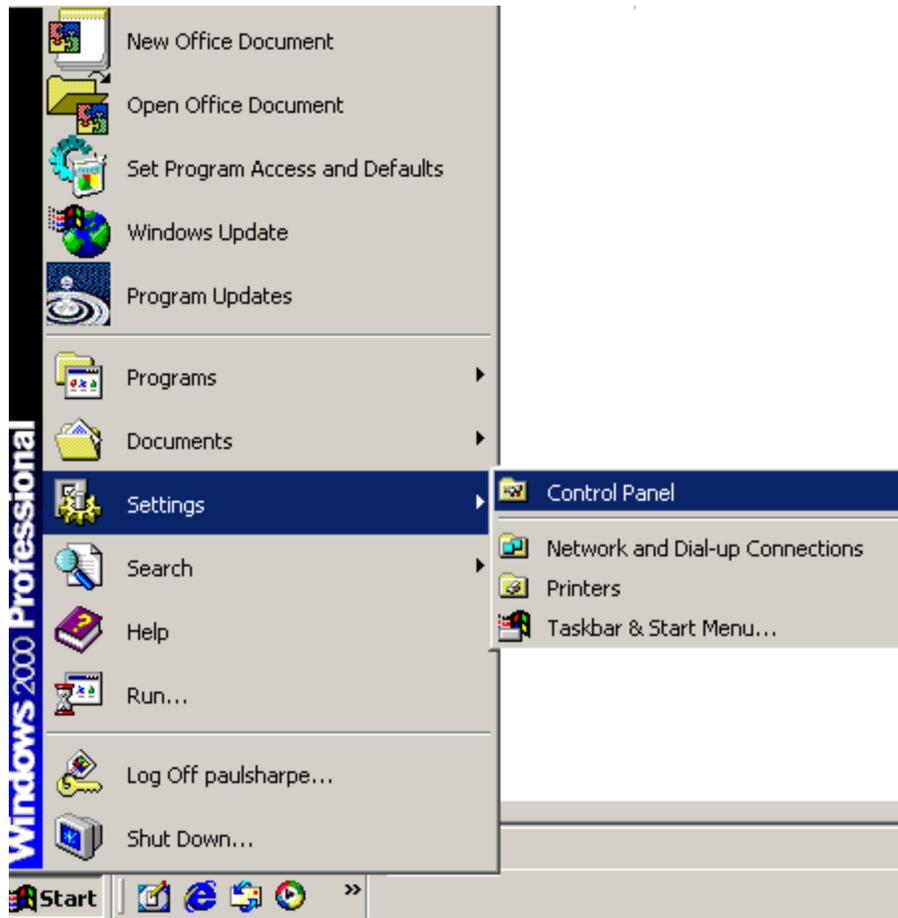

Figure 6-16: Access Windows Control Panel
Step 1: Open **Windows Control Panel** (Figure 6-16).